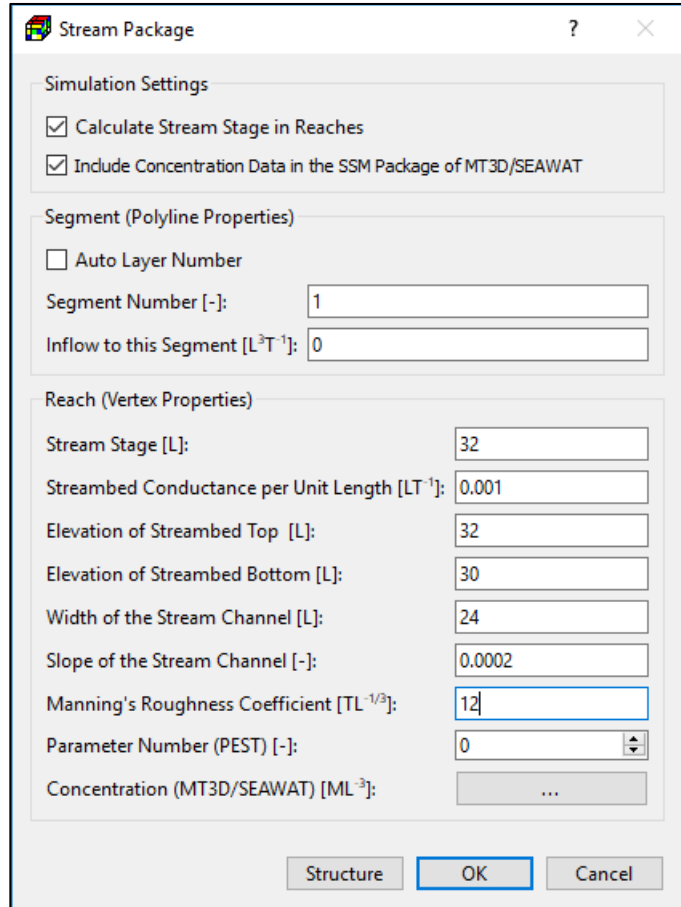

Figure 70. The Stream Package dialog box for specifying vertex properties
2. **Polyline input method:** Figure 70 shows the dialog box for specifying vertex/polyline properties. Once the vertex data are specified, they may be interpolated and applied to model cells following the rules described in Section 3.3.2.2.